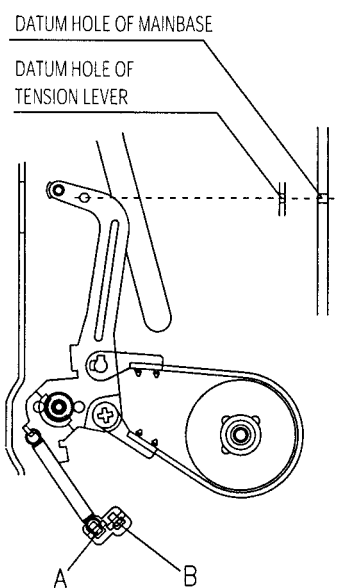

Fig.3-17 ADJUSTMENT OF THE TENSION POLE POSITION
- After assembling the TENSION BAND ASSEMBLY on the MAINBASE, adjust the position of TENSION POLE as shown Fig. 3-17.